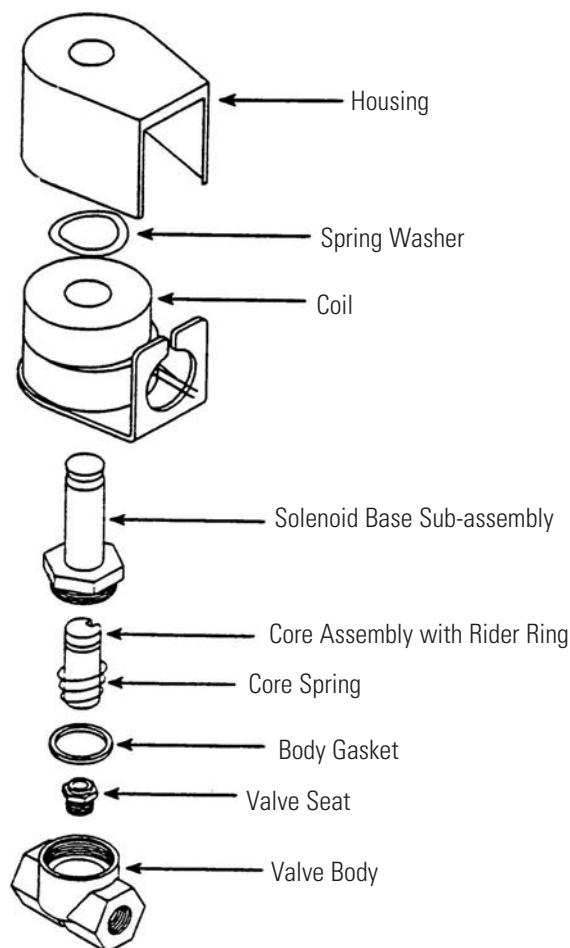

Figure 4-1. Exploded View of Valve
3. Clean and assemble in reverse order of disassembly, paying careful attention to exploded view provided (Figure 4-1) for identification and placement of parts.